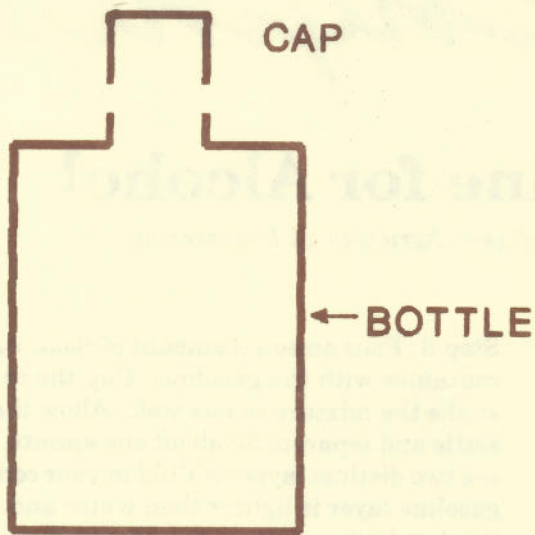

FIGURE 1
**Step 1.** Obtain a small (preferably 4- to 16-ounce capacity) glass container or bottle with a cap or lid that can be used to seal the container. A tall, thin container shaped like a test tube will work best, but a pint jar will also work well (Figure 1).